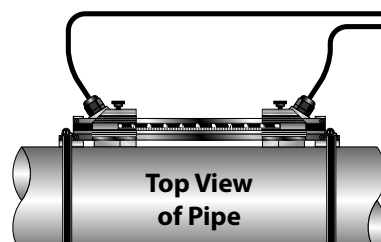

Figure 27: Mounting track installation
4. Place the first transducer in between the mounting rails near the zero point on the scale. Slide the clamp over the transducer. Adjust the clamp and transducer so the notch in the clamp aligns with the zero on the scale. See Figure 27.